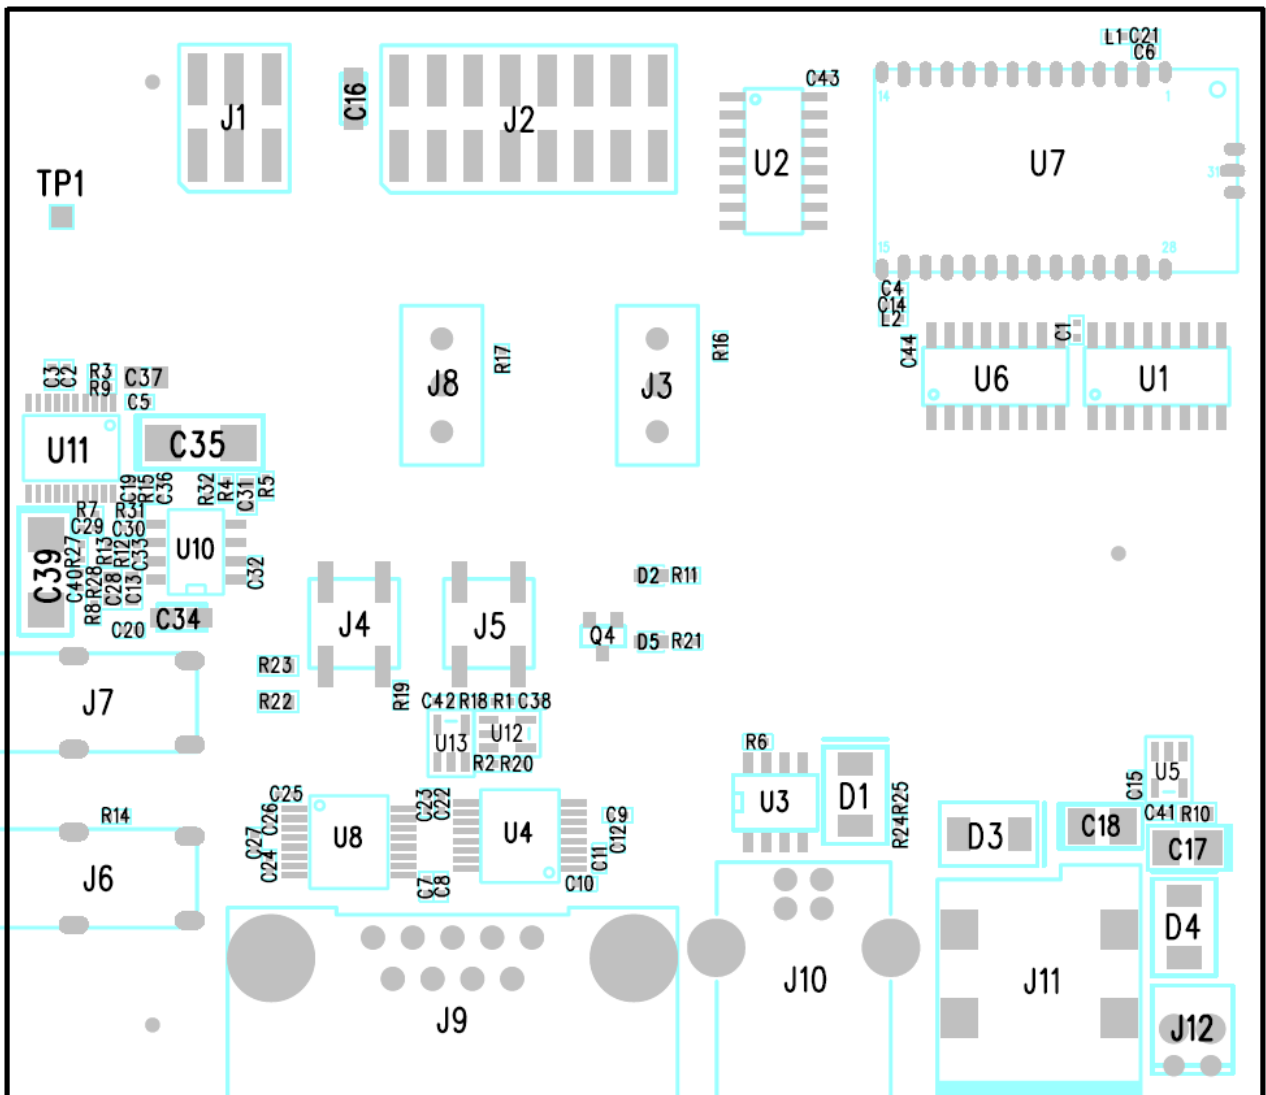

Figure 2: WT12 Evaluation Kit assembly
**Note:** 'Top' and 'bottom' positions refer to viewing WT12 Evaluation Kit from top side as seen in Figure 2.